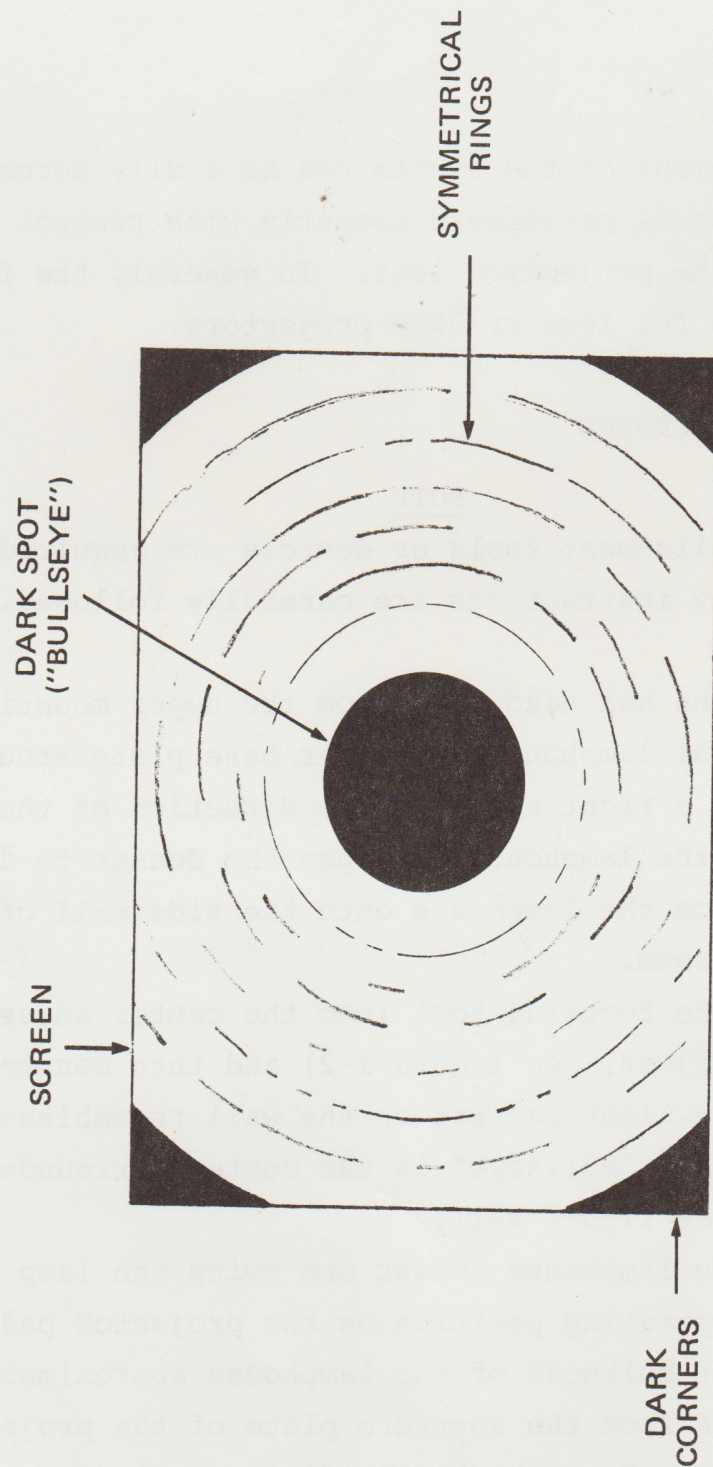

Figure 4-1. Typical "Bullseye" Pattern
- c. Insert the focusing tool into the center adjustment hole (focus adjust, see figure 1-2) and turn counterclockwise until the light pattern on the wall resembles a target with a dark "bullseye" in the center surrounded by gray rings (see figure 4-1).